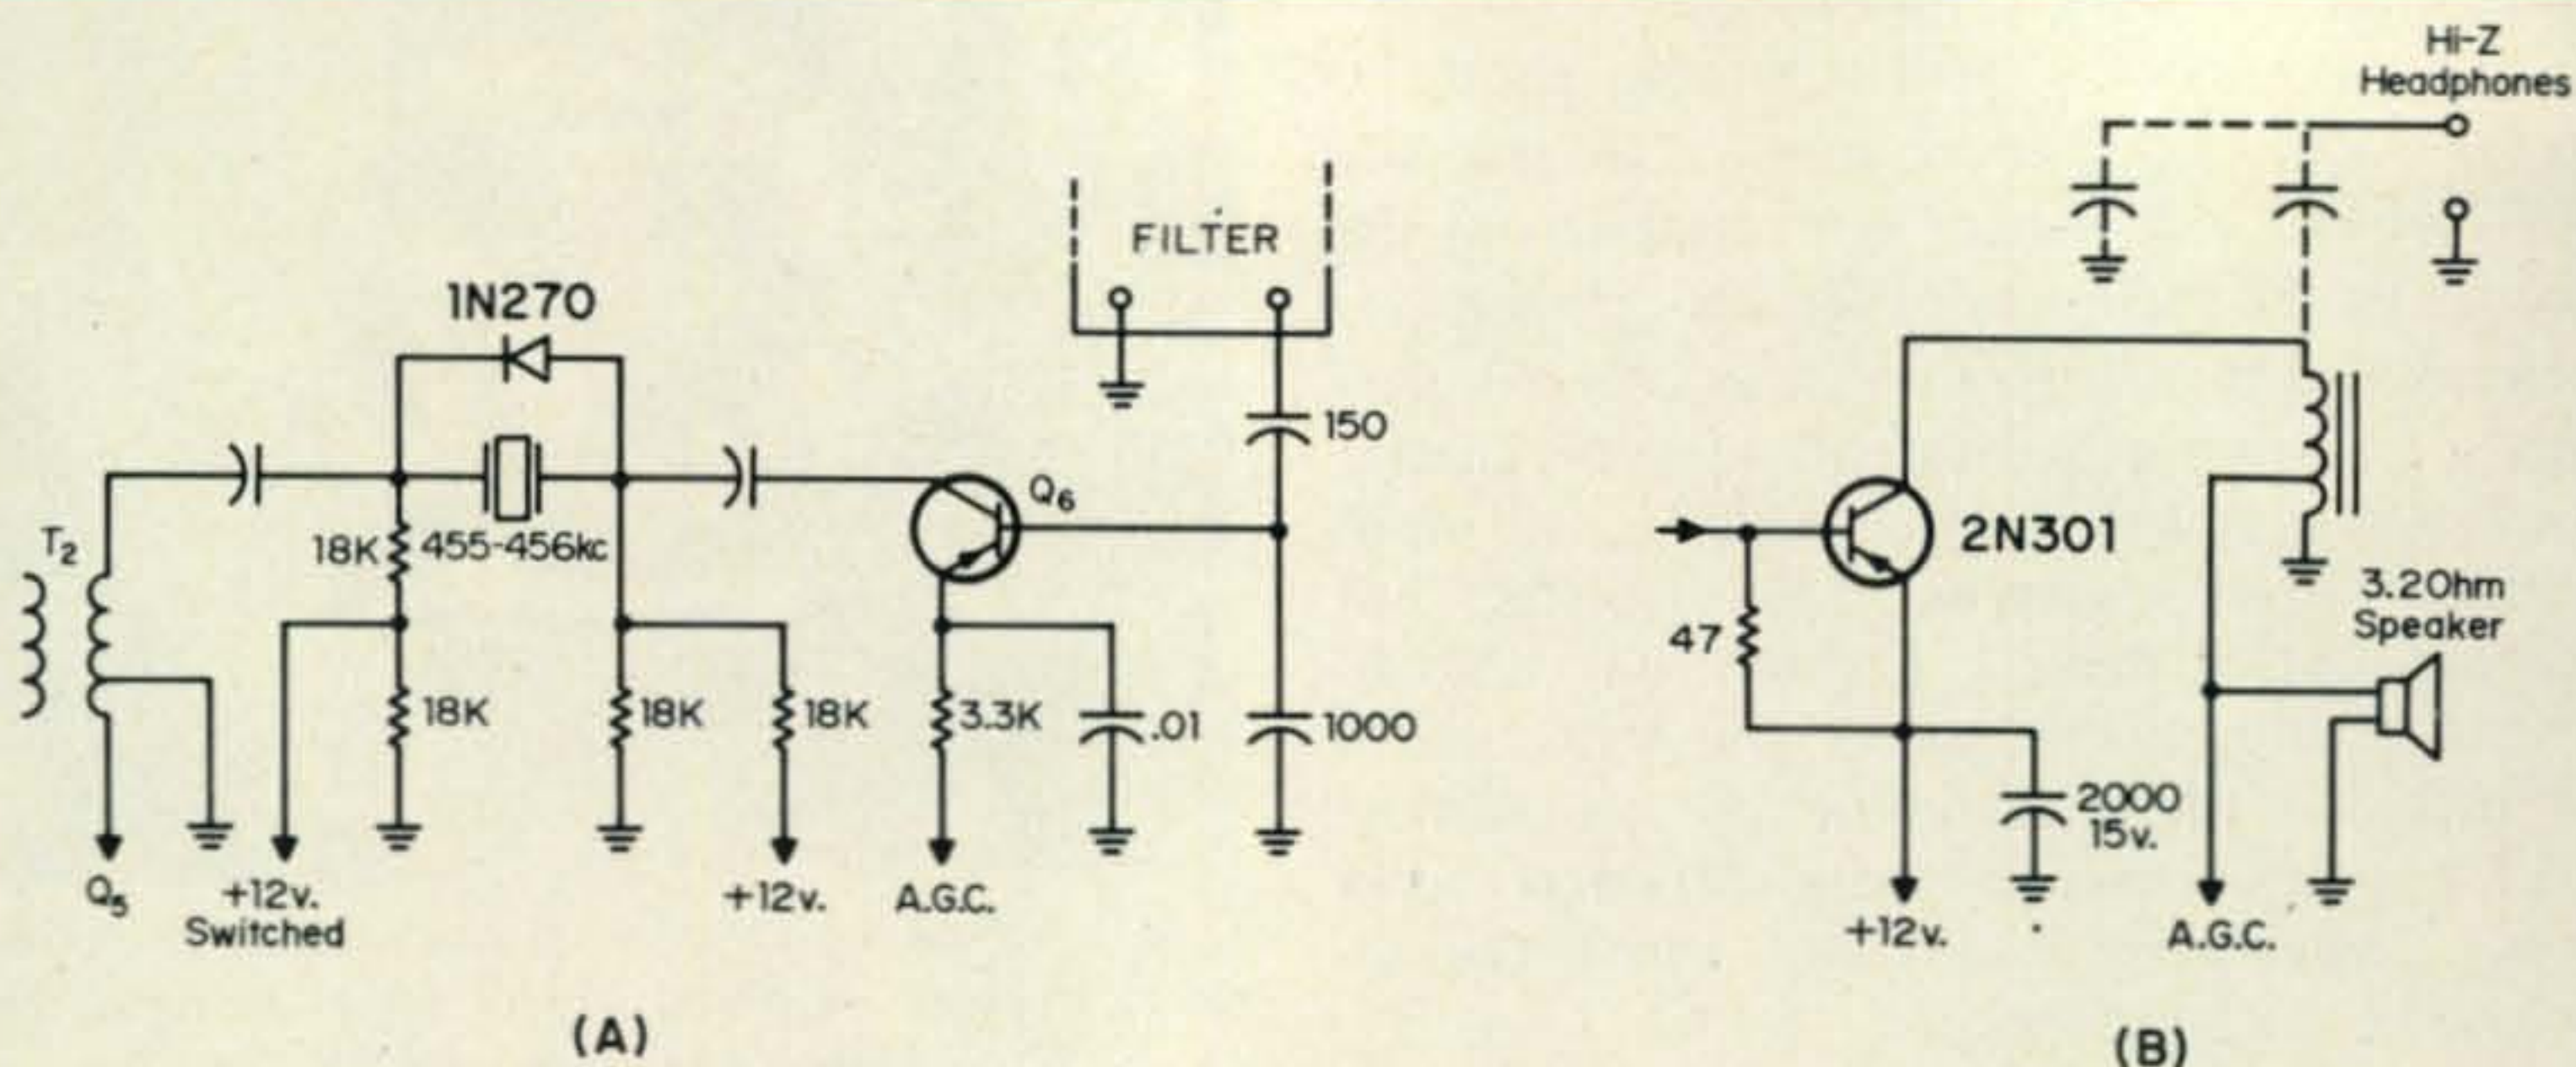

Fig. 7—Methods to enhance the c.w. selectivity; a single crystal filter circuit (A) and "building out" of the audio output circuit, (B).
Figure 7 (A) shows a circuit for installation of a single crystal filter in the 456 kc i.f. circuit. A simple diode switching circuit is used to switch the filter in and out. When 12 volts is applied to the "switched" terminal the diode is back-biased for non-conduction and the crystal is operative. When this voltage is removed, the diode is forward biased to a low resistance and the crystal is inoperative. The 12 volts can be provided from the same switch as energizes a relay to switch in the c.w. band crystals or from a separate pull-switch on one of the front-panel potentiometers, as desired.
Another method which provides considerably less selectivity but nonetheless is of some usefulness is shown in fig. 7 (B). Using high-impedance headphones connected to the high end of the audio output auto-transformer, the primary of the auto-transformer is "built-out" by either series of parallel paper capacitors of 0.05 to 1 mf, depending upon headphone characteristics, to peak the audio response. The selectivity obtained is not great but still helps and is certainly worth the effort if headphones are going to be used for c.w. operation anyway. The loading provided by low-impedance headphones will normally not allow the scheme to work.